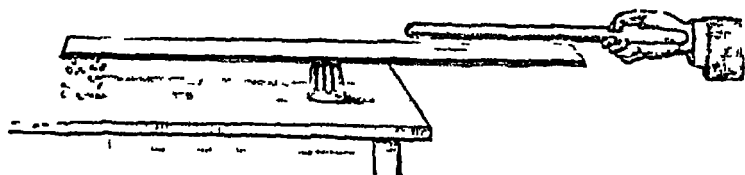

FIG 171
**Induction.**—Charge the electroscope with negative electrification. Insulate a lath by placing it upon a dry tumbler (fig 171),